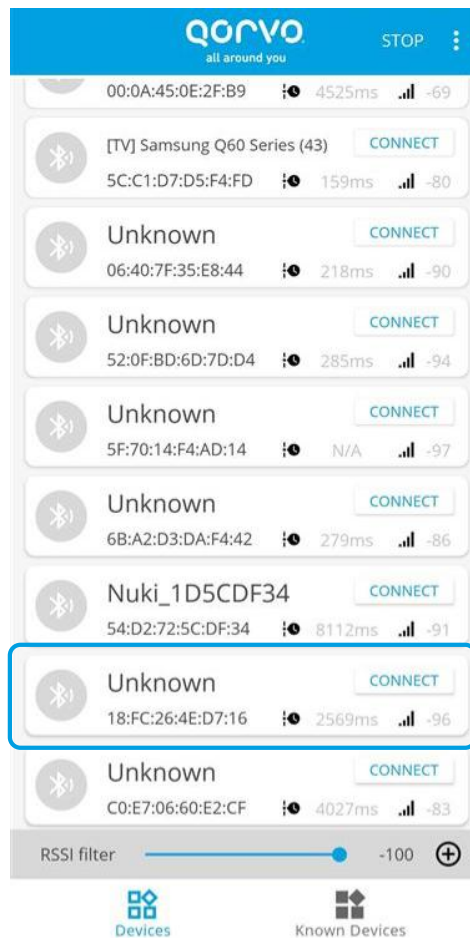

Figure 2.8: Find beacon device in Qorvo Connect
6. Open Qorvo Connect on your smartphone and look for the Bluetooth LE address of your device. See figure 2.8.